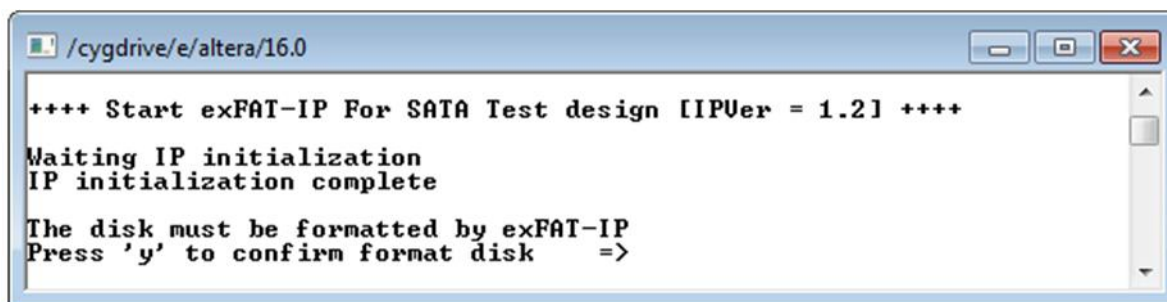

Figure 2-6 Message when IP runs initialization process
- Open NiosII Command Shell and run nios2-terminal command. After that, boot message is displayed as shown in Figure 2-6.